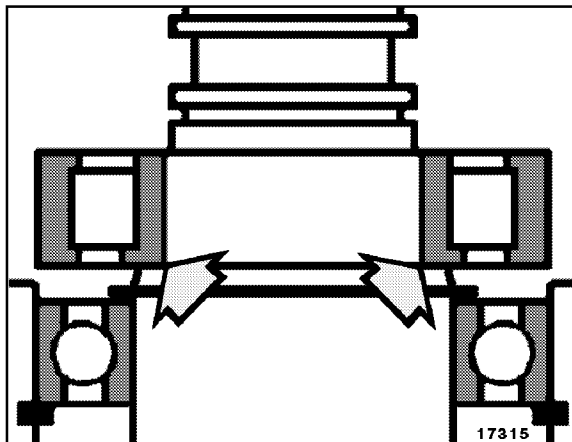

Figure 65
NOTE: Make sure that lip side on bearing race is pressed against the bearing seat, as shown in Figure 65. If not the clutch pack can not be properly installed into the main case.
42. Remove nut (1, ?) and turn screw (2) in or out as necessary to achieve a distance of 0.91 In. (23.114 mm) as shown in Figure 65.
44. While holding screw (2) with a hex wrench so as not to disturb the adjustment, install and tighten nut (1) against the housing.